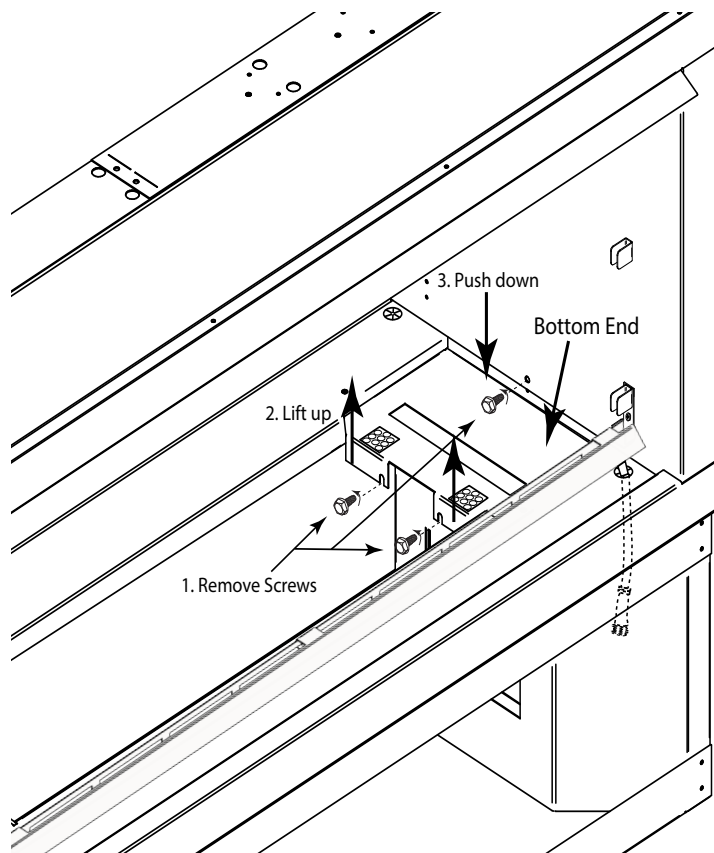

Fig. 22 Removing bottom end
Step 7: Remove the screws from the “bottom end” of the burner pan area. The bottom end part fills the space between the burner pan and the fireplace side panel. It is held into place with three (3) screws. See Fig. 22. First remove the two inside screws, then the screw securing the side wall. Lift up the area where the two screws were and push down where the single screw was, then lift the bottom end out of the fireplace.